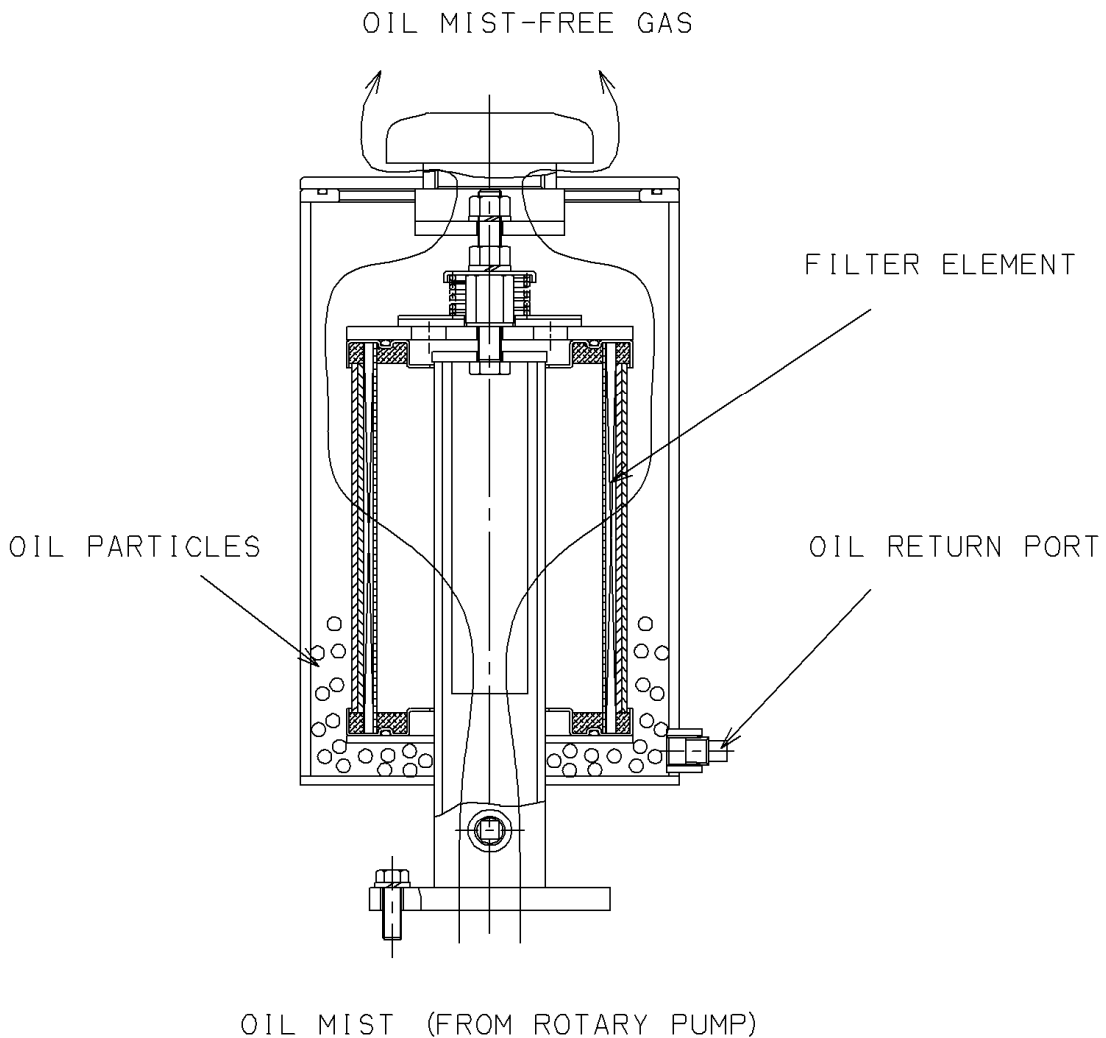

Fig.3 Schematic diagram
2.4 Structure (Refer to Fig. 3)